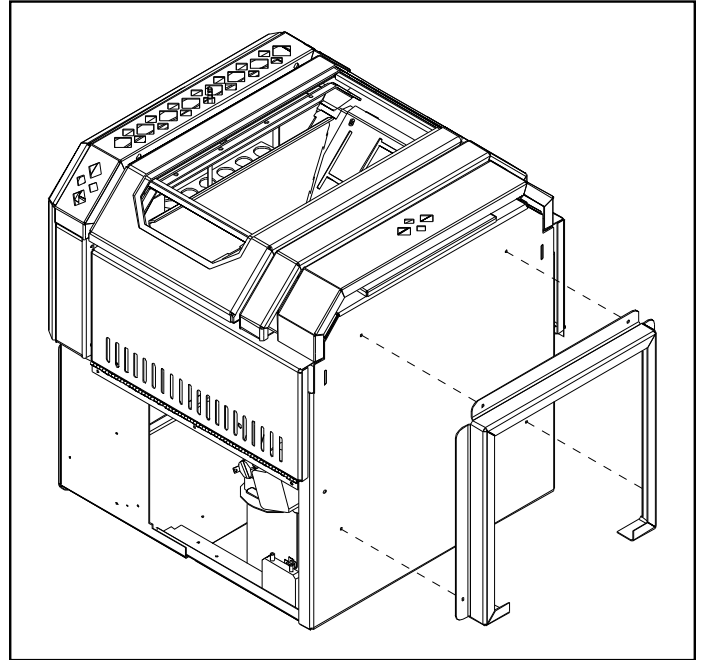

Figure 8: Installing pedestal onto unit.
4. Back the four (4) $\frac{5}{16}$ " hex head screws in the base off three (3) to four (4) full turns.
5. Secure the pedestal to the unit by tightening the four (4) $\frac{5}{16}$ " hex head screws around the outside of the pedestal (see Figure 8).